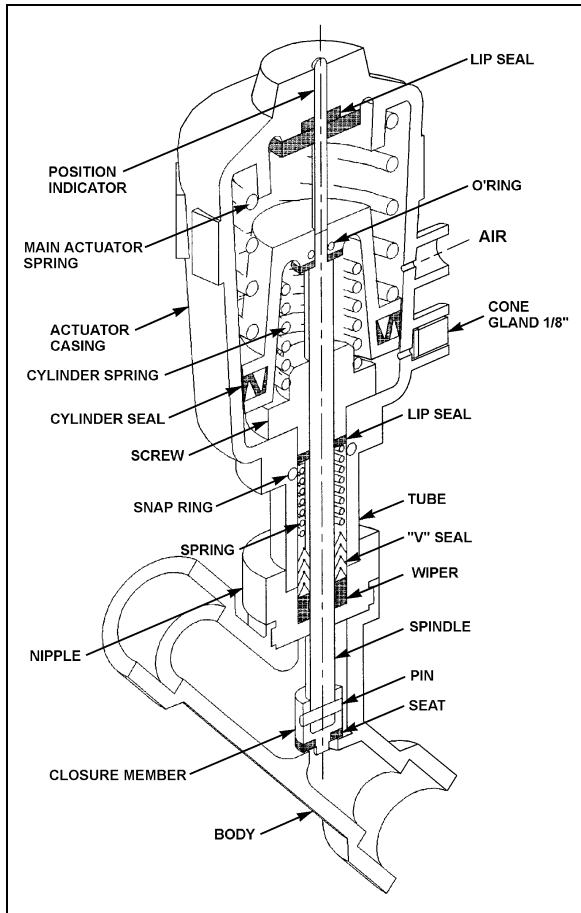

FIGURE 58: PASSENGER'S UNIT HOT WATER PNEUMATIC VALVE 22241
2. The water valve need not be removed from the line. Unscrew nipple, the actuator casing, tube, spindle and closure member can be removed (Figure 58).
2. Tighten the nipple in place in the body cavity as per Figure 58. Fasten pilot solenoid valve to the pneumatic water valve. Reconnect air supply pressure and electrical current to the pilot solenoid valve.